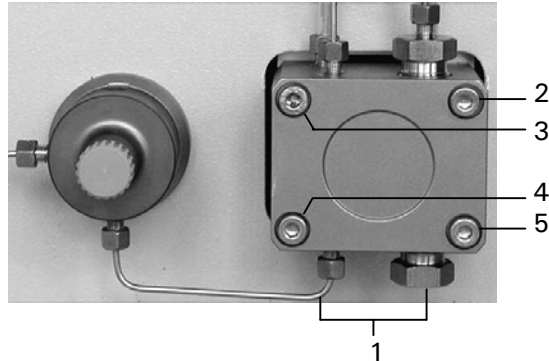

FIGURE 6-4. Disassembly of the Pump Head
- a) Remove the inlet and the connecting capillary (FIGURE 6-4).
- b) Loosen two diagonally opposed screws (e.g. screws '2' and '4' in FIGURE 6-4 by a quarter turn at a time and remove the screws.
- c) Carefully loosen the two remaining screws (e.g. screws '3' and '5' in FIGURE 6-4), alternating from one to the other, approximately half a turn at a time and remove the screws.